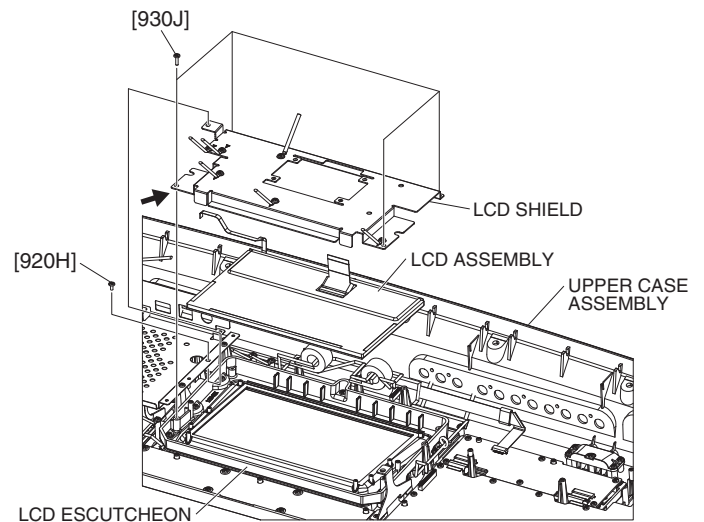

Fig. 9
- 16-3 Remove the screw marked [920H] and the four (4) screws marked [930J]. The LCD shield can then be removed. (Fig. 9)
- * **When installing the LCD shield, first attach the LCD shield to the LCD escutcheon, and press the LCD shield in the arrow direction, and then tighten with the screw [930J]. (Fig.9)**
- 16-4 Remove the LCD assembly. (Fig. 9)